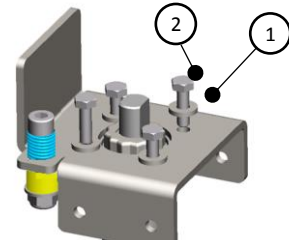

Figure 1
3. Position the Lower Half Bracket (KPN14\*\*INF A54N) on the valve ISO top flange as indicated on figure 1
4. Position the 4 washers (1) and the 4 screws (2) and tighten them all.